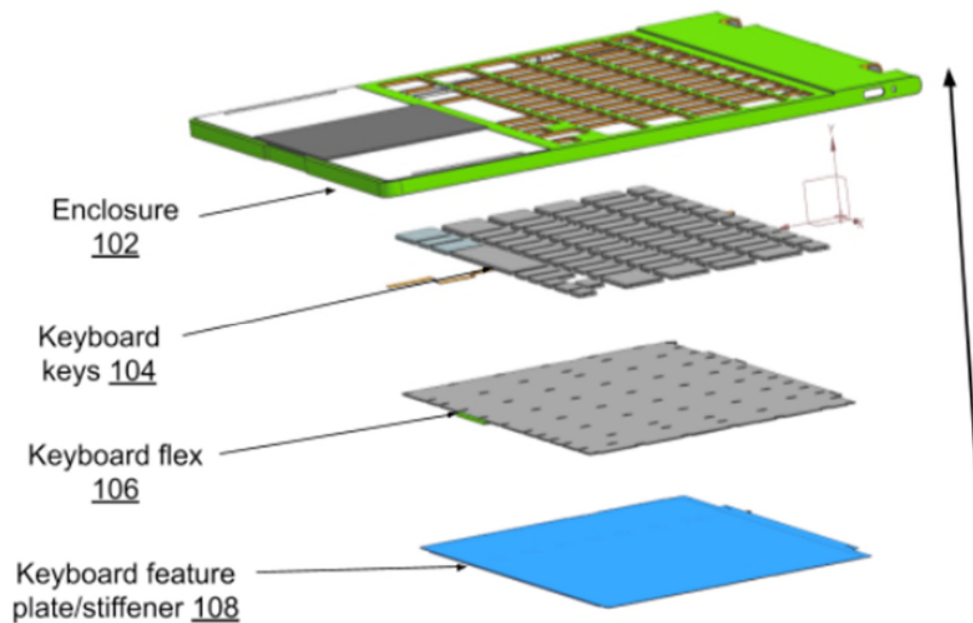

Fig. 1: Side view of typical laptop keyboard module elements
Fig. 1 illustrates side-views of example elements of a keyboard assembly for a laptop that includes an enclosure (102), keyboard keys (104), a keyboard flex (106), and a keyboard feature plate/stiffener (108). The keyboard assembly is placed below the laptop enclosure, and is attached to the inside of the laptop enclosure via screws or tact pins. The keyboard stiffener/feature plate adds thickness and weight to the laptop since it is typically made of metal.